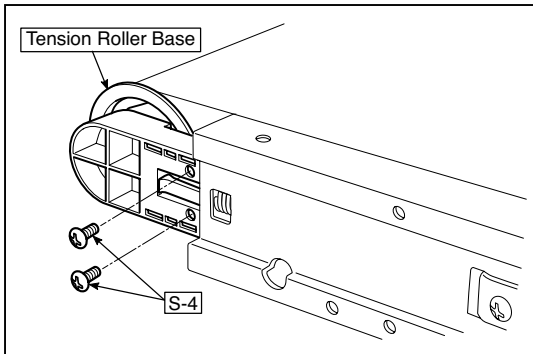

Fig.28
- 3.Remove the stopper “S-4” screws in the (two upper and lower) Tension Roller Bases shown in the figure 28.